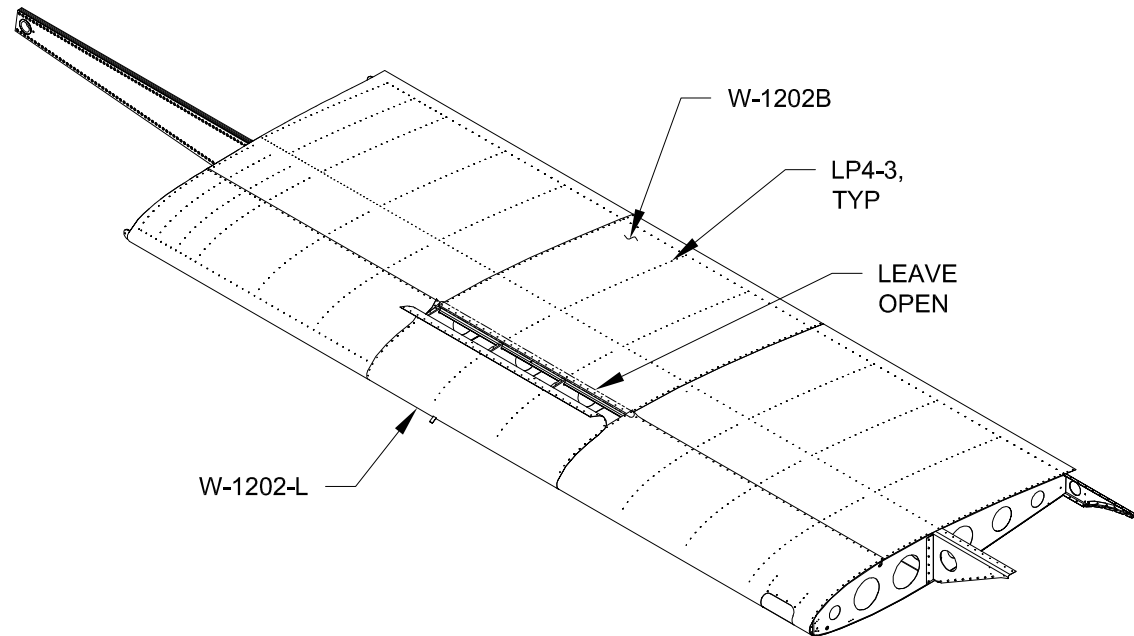

FIGURE 1: ATTACHING MID UPPER WING SKIN
Step 1: Cleco one of the W-1202B Mid Upper Wing Skins to the wing skeleton as shown in Figure 1. Rivet the mid upper wing skin to the skeleton leaving holes open as shown in Figure 1.